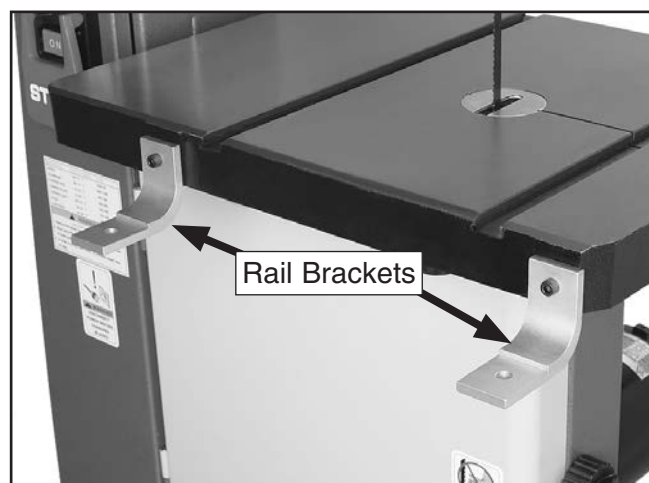

Figure 9. Rail brackets attached to table.
12. Attach the rail brackets to the front of the table with the two M6-1 x 16 cap screws, as shown in **Figure 9**.